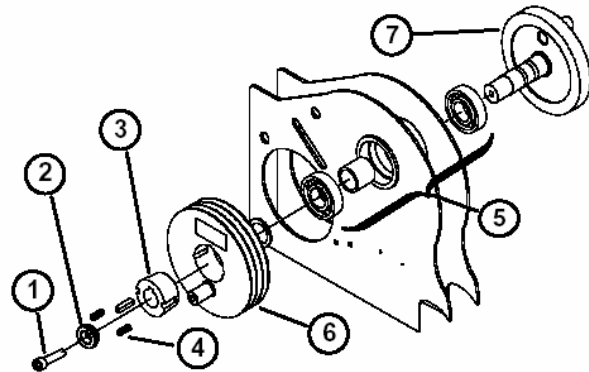

Figure 4
13. Install the new crankarm assembly from the same direction as the previous assembly (Fig. 4).
15. Loosely install the original pulley, taper lock bushing, and key (Fig. 4). Start the taper lock setscrews in place but do not secure.
16. Install the M16 socket head capscrew and retainer and draw the taper lock into position by tightening the M16 socket head capscrew to 7–15 ft–lb (10–20 Nm) (Fig. 4).
17. Secure the taper lock bushing setscrews in an alternating method until both reach 37 ft–lb. (50 Nm) (Fig. 4). This may require several torque applications.
18. Complete the assembly by tightening the M16 socket head capscrew to 151–170 ft–lb (205–230 Nm) (Fig. 4). This torque will overcome the clamp load applied to the shaft by the taper lock bushing and insure the proper clamp load on the crankarm bearings.